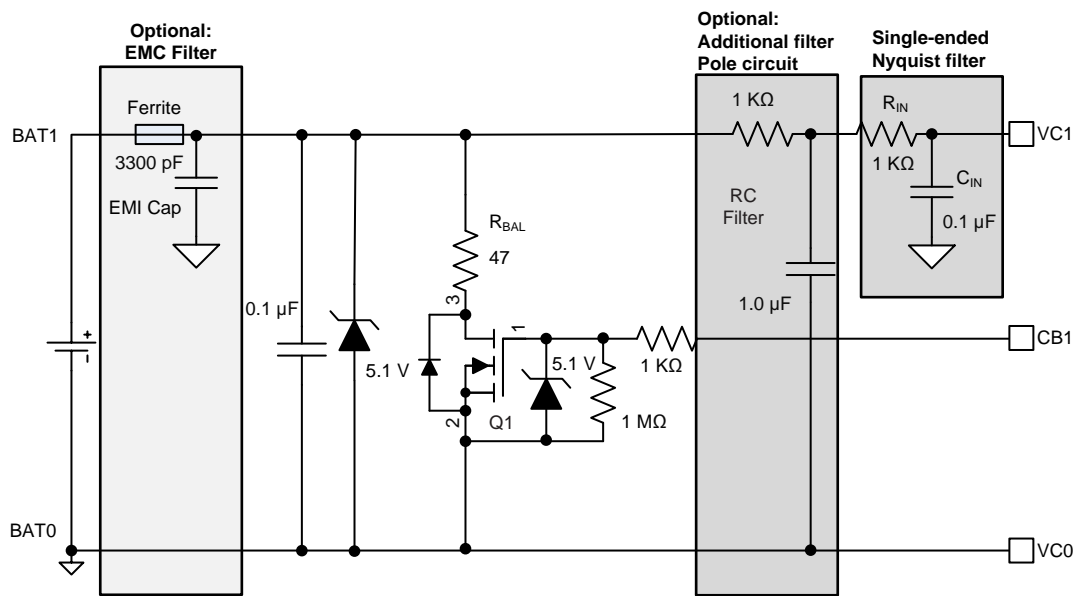

Figure 6. Cell Input Differential Nyquist Filter—Additional Filter Pole Circuit
- The addition of a simple two-pole filter decreases the noise bandwidth and measurement error introduced by the typical inverter noise (see Figure 6).